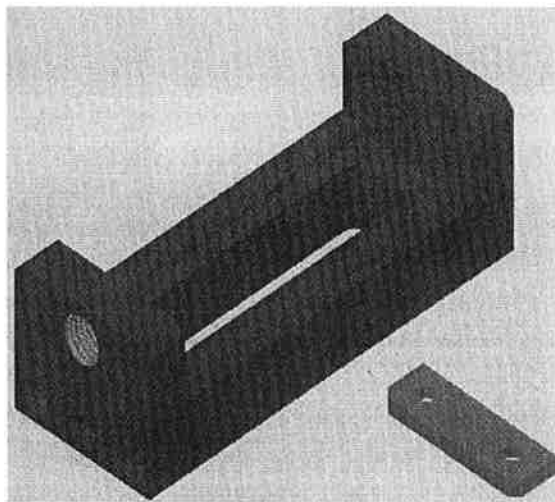

Figure 15-11
2. Using the Move triad, position the component similar to that shown in Figure 15-11. This places the component in a better location for assigning references during joint assignment. Click **OK**.